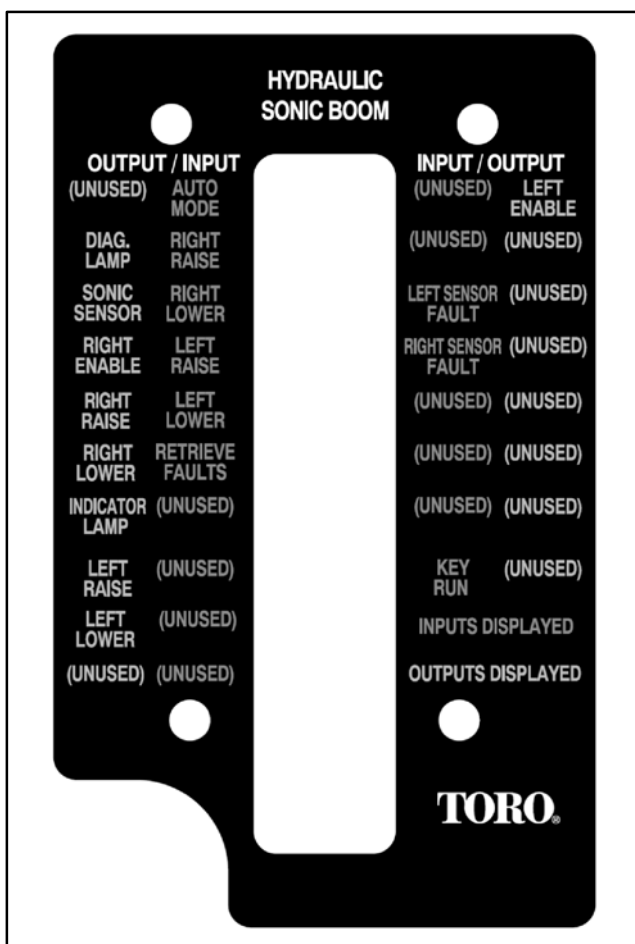

Figure 15
3. Connect the Diagnostic Display connector to the wire harness connector. Make sure correct overlay decal is positioned on the Diagnostic Display (Fig. 15).